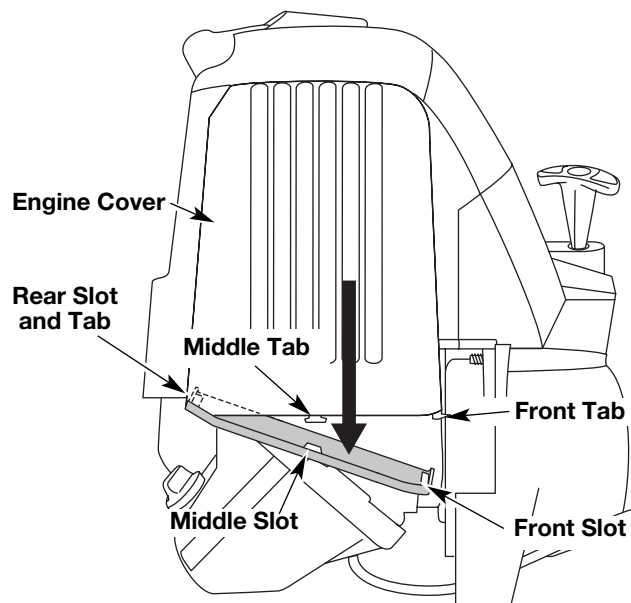

Fig. 33
1. Remove the muffler cover by pressing down on it, separating it from the engine cover. Using a flat blade screwdriver, disengage the middle and front tabs and slots first. The cover will hinge off from the rear tab (Fig. 33).
13. Reinstall the muffler cover. Slip the rear tab on the muffler cover into the engine cover rear slot. Then slide the remaining slots into the tabs until they snap into place (Fig. 33).